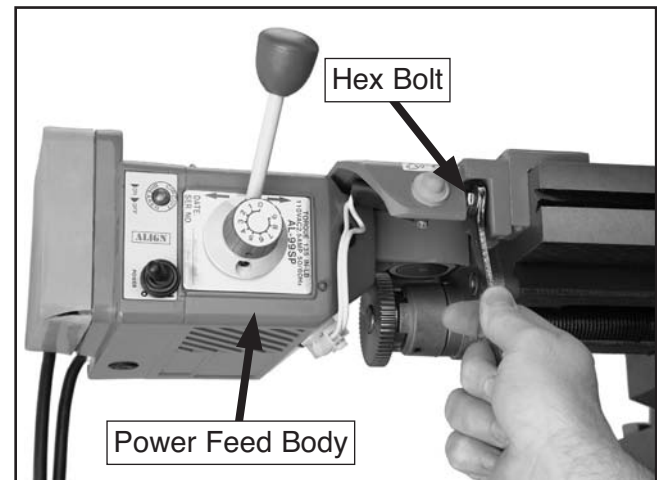

Figure 14. Attaching power feed body.
3. Attach the power feed body to the clamping bracket assembly with the hex bolts. Before tightening completely, position the power feed body so the gears mesh perfectly. Tighten the hex bolts when the gears are in mesh (**Figure 14**).